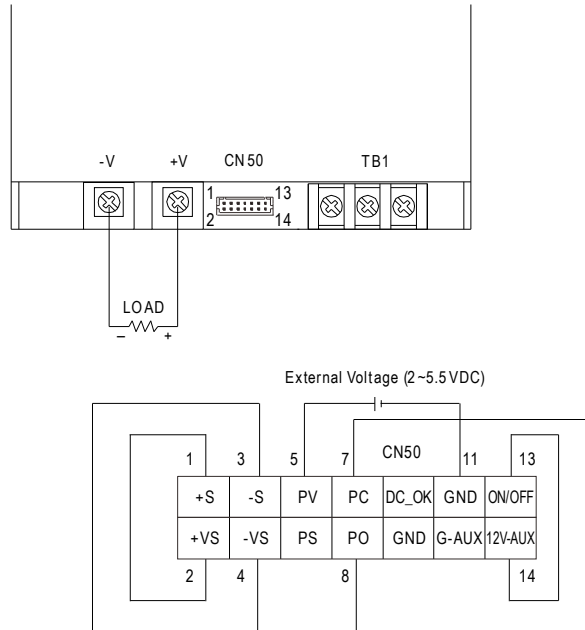

Fig 5.1
(1) Using an external DC source (2~5.5VDC) between "PV"(pin5) and "GND"(pin10, 11) that is shown in Fig5.1